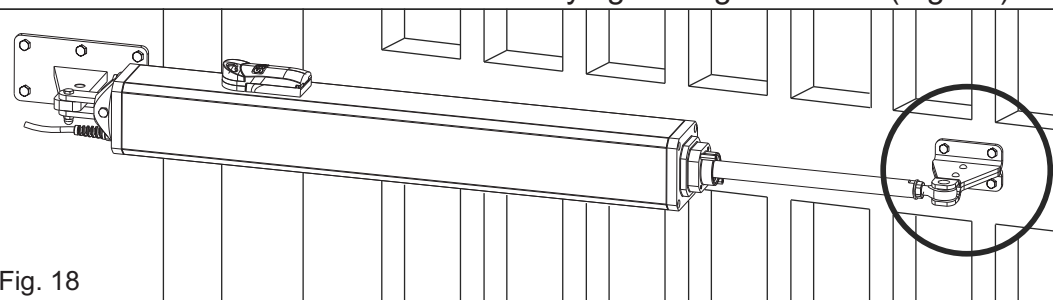

Fig. 18
- Place the operator shaft in the housing of the front bracket (Fig. 18)